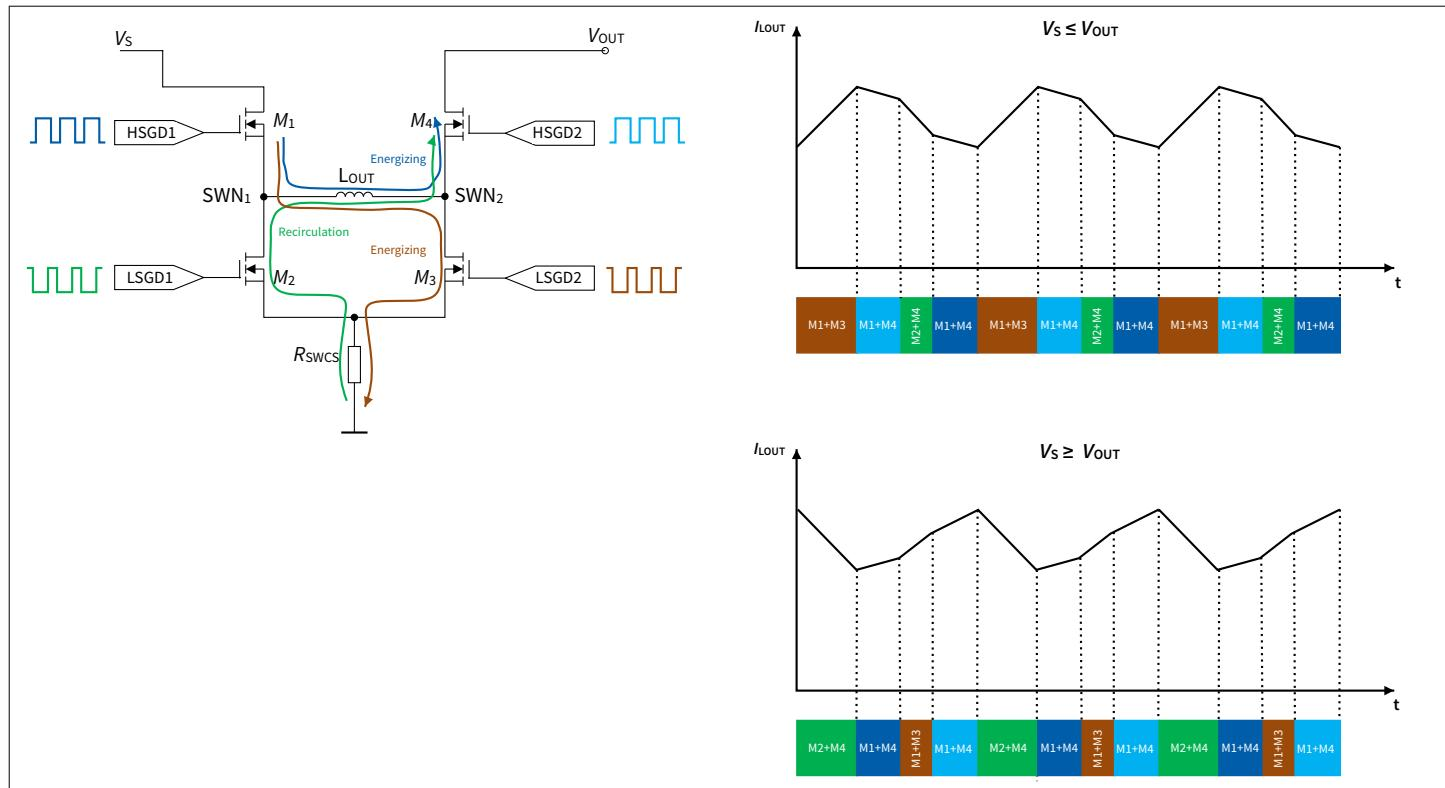

Figure 15 **4 switches H-Bridge architecture in BUCK_BOOST mode**
- The two buck boost waveforms and switching behaviors are displayed in Figure 15 below